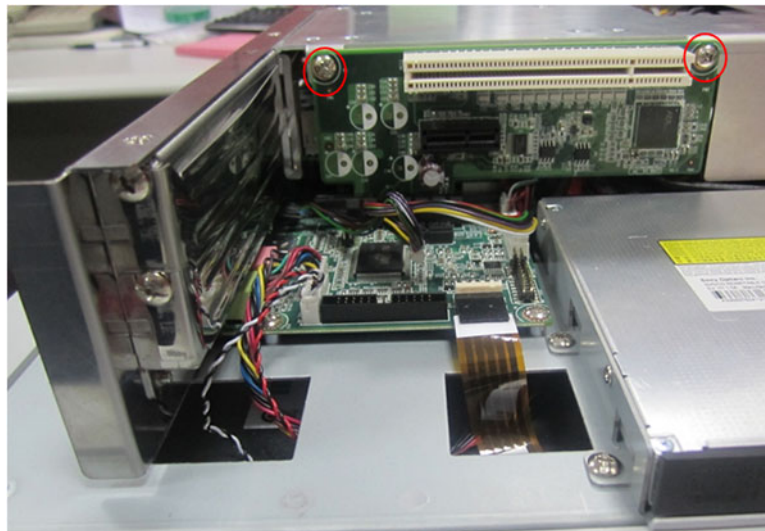

Figure 2.38
2. Insert the riser card into the slot, and lock the two screws. (See Figure 2.38)